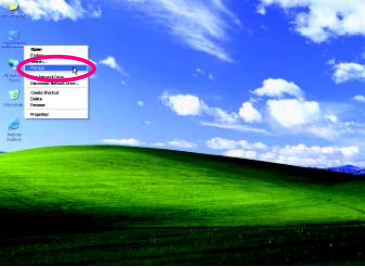
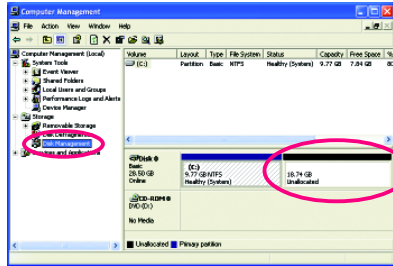

Figure 4
Figure 5
4. After the operating system is installed, right-click the **My Computer** icon on your desktop and select **Manage** (Figure 4). Go to **Computer Management** to check disk allocation. Xpress Recovery2 will save the backup file to the unallocated space (black stripe along the top)(Figure 5). Please note that if there is no enough unallocated space, Xpress Recovery2 cannot save the backup file.